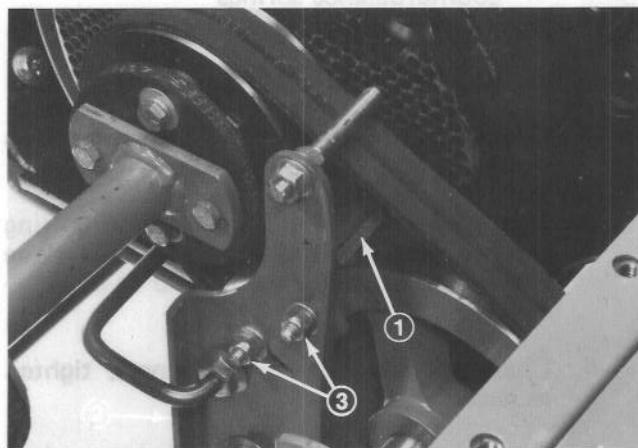

Figure 81
2. Inspect brake pad and lining assembly for excessive wear or damage (Fig. 81) and replace if necessary. Remove assembly by removing capscrews and flangenuuts. (Fig. 81).
3. Reinstall brake pad and lining onto PTO brake assembly with capscrews and flangenuuts and mount PTO brake assembly (Fig. 81). Install all mounting components in same location from which they were removed.
4. Align PTO brake assembly with pulleys and belts and tighten mounting fasteners. Visually inspect alignment of brake lining with pulley. Lining should be parallel to pulley and centered over pulley grooves. Loosen and remove PTO brake bracket fasteners and add or remove spacers between the bracket and mounting plate to achieve a parallel adjustment. Adjust the capscrews & flangenuuts to center the lining assembly (Fig. 81).